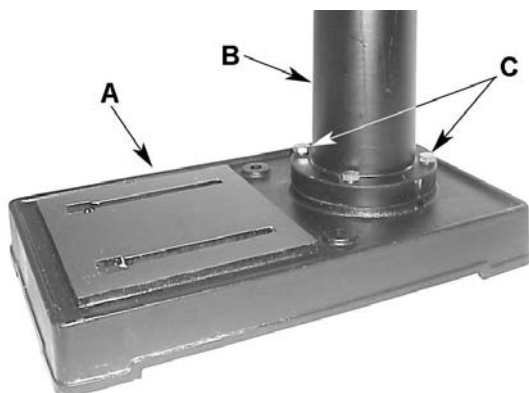

Figure 1
Referring to Figure 1:
1. Place the base (A) on a level floor.
2. Place the column assembly (B) on the base (A) and align the holes in the column support with the holes in the base.
**Note:** The column shown in Figure 1 is for the JDP-15MF. While the JDP-15M column is slightly different in appearance, the assembly procedure is the same.
3. Using a 17mm wrench, secure the column (B) with four M10 x 40 hex cap screws (C) to the base.